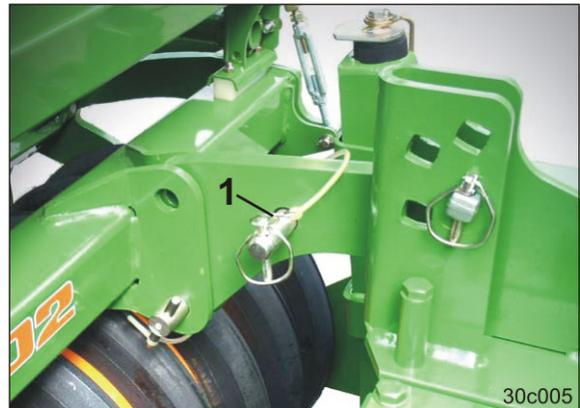

Fig. 116
18. Put the carrying arm pin (Fig. 116/1) into parking position and secure with a linch pin.